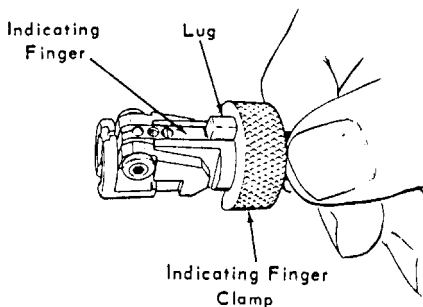

FIGURE 16
2. Slip the Indicating Finger Clamp on the Handle Extension so the lug fits snugly over the Indicating Finger of the Gage (see Figure 16).
NOTE: The Indicating Finger Clamp restricts the movement of the Indicating Finger, thereby making it easier to remove and replace the Ball. The Clamp should be held against the Indicating Finger (see Figure 16) for the following steps.